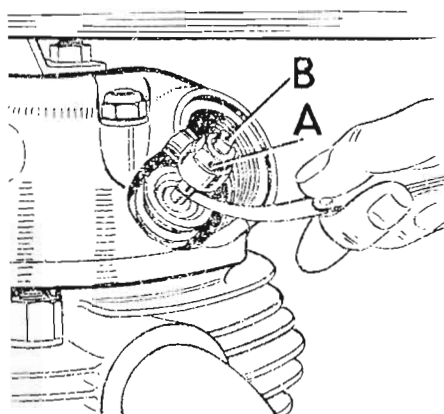

FIGURE 10.
When the exhaust valve clearance has been adjusted, rotate the motor forward again until this clearance is just taken up (i.e., just before the valve actually starts to open). This is the correct position for checking and adjusting the intake valve clearance. Check the valve clearances by sliding a feeler gauge between valve stem and adjusting pin, as shown in FIG. 10.
If the clearance requires adjusting, slacken the locknut (A) FIG. 10, and adjust pin (B) until a feeler gauge of the correct thickness will just slide between the valve and pin.
The clearance between the rocker arm and valve stems is adjusted by means of eccentric rocker spindles, although the gauge is still inserted through the inspection aperture as shown in FIG. 10.